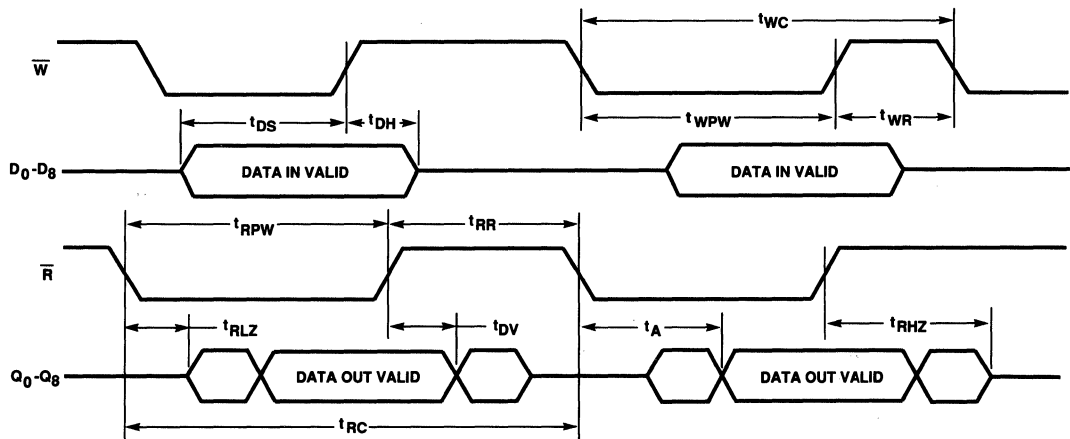

Figure 3. Asynchronous Write and Read Timing
The HIGH state of the Full Flag (\overline{FF}) indicates that the FIFO is capable of accepting data. The falling edge of Write (W) initiates a write cycle. (See Figure 3.) Data appearing at inputs D0-D8 t_{DS} prior to and t_{DH} after the rising edge of W will be stored sequentially in the FIFO.
The HIGH state of the Empty Flag (\overline{EF}) indicates that the FIFO is ready to output data. The falling edge of Read (R) initiates a read cycle. (See Figure 3.) Valid data appears on the outputs Q0-Q8 t_{A} after the falling edge of R, and remains until t_{DV} after the rising edge of R. Q0-Q8 return to a high-impedance state when a valid read is not in progress.